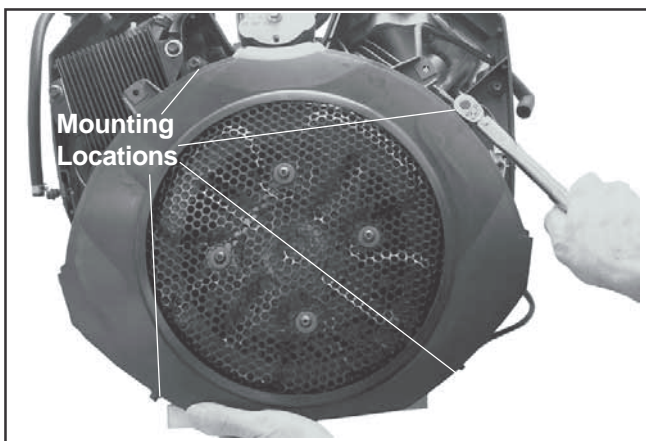

Figure 10-107. Installing Blower Housing.
1. Align and install the blower housing. See Figure 10-107.